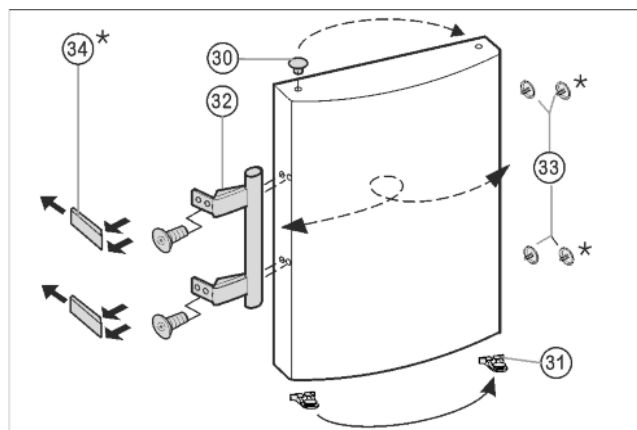

Fig. 8
- Lift the stopper Fig. 8 (30) out of the door bearing bush and transfer it.
- Detach door handle Fig. 8 (32), stopper Fig. 8 (33) and pressure plates Fig. 8 (34) and transfer to the opposite side.